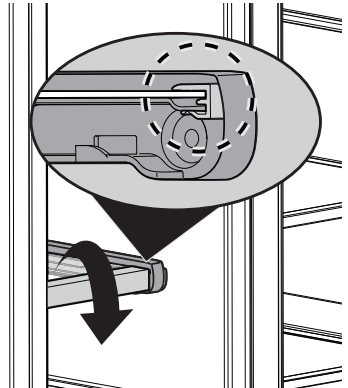

Figure 1
**Freezer:** You can remove the glass freezer shelf for cleaning. Remove all food from the glass shelf. Rotate the front trim down to remove front trim (Figure 1).